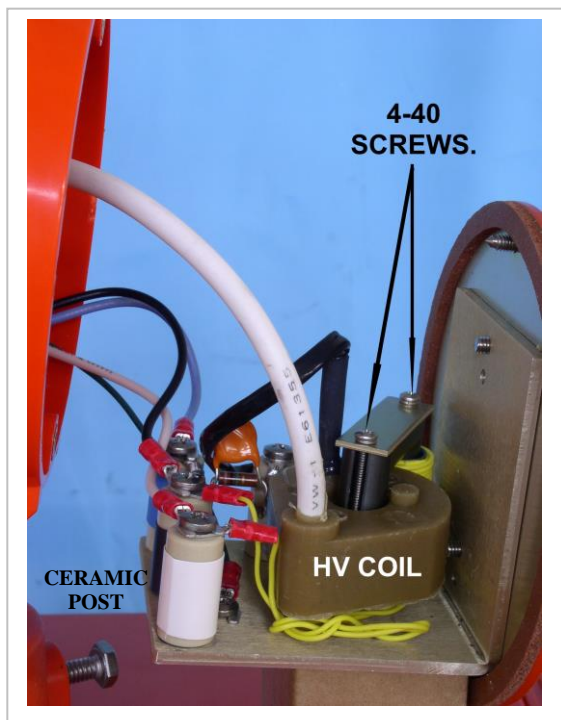

Figure 18a
- Remove the two 4-40 Phillips-head screws (identified in Figure 18a). These screws hold the trigger transformer to the bracket.